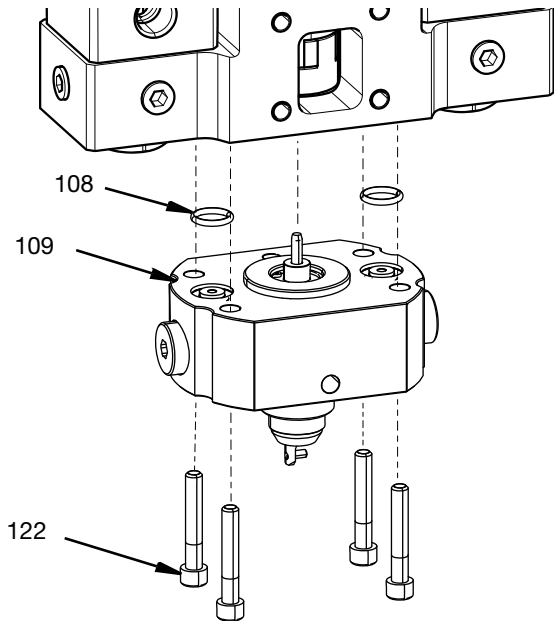
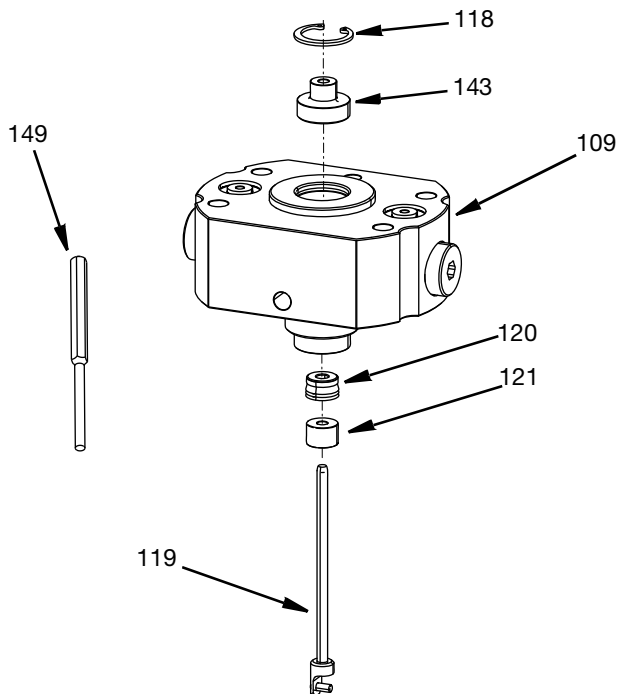

FIG. 45
FIG. 46
7. Using snap ring pliers, remove the retaining ring (118) holding the upper shaft bearing in place (143).
8. Pull the upper shaft bearing (143) out of the check valve housing (109).
9. Remove the lower bearing (120), and the shaft seal (121) out of the check valve nozzle housing using the 1/4 in. punch tool (149). See FIG. 46.
5. Install the shaft assembly (119) onto the check valve housing (109). Use the spacer tool (151) to ensure there is a 0.03 in. (0.76 mm) gap.
6. Replace the two o-rings (108) on the top of the check valve nozzle.
7. Ensure lower portion of lower rotary coupling (127) is fully seated against rotary coupling.
8. Install the four screws through the bottom of the check valve and orifice nozzle housing (109) into the base housing. (101) Torque to 50 in-lbs (13 Nm).
9. Tighten the clamp screw on the rotary coupling (127) to lock it onto the bearing shaft assembly using a 5/64 in. allen wrench.
10. Install the coupling cover (135) with the four screws (136) opposite the customer provided mounting fixture. Torque to 50 in-lbs (13 Nm). See FIG. 45 and FIG. 46 for assembly.